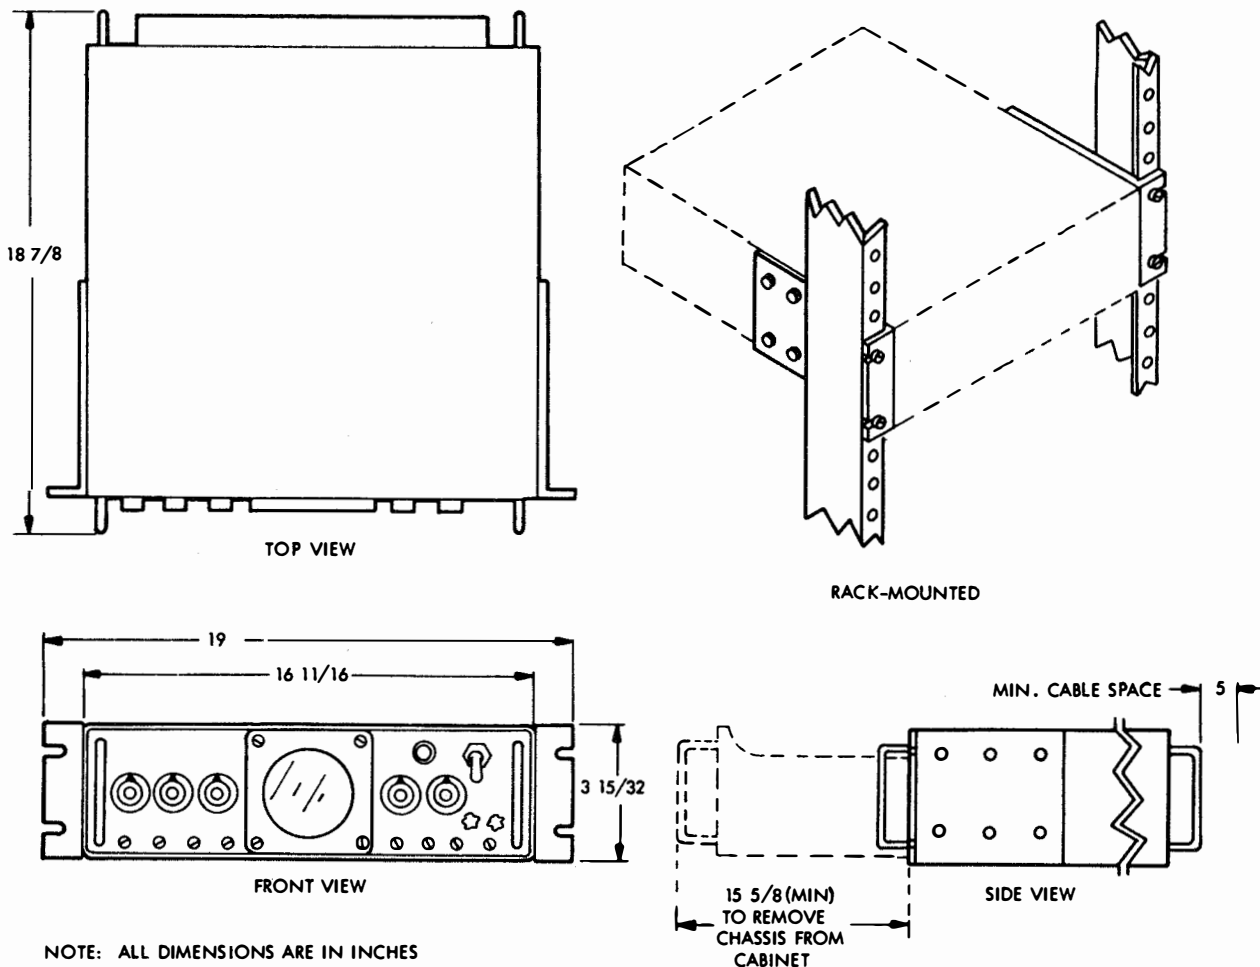

Figure 2-3. Frequency Shift Converter CV-483C/URA-17, Rack-Mounting Installation Drawing
dimensions and clearances required for table-mounting the CV-483C/URA-17. Figure 2-3 shows all mounting dimensions and clearances required for rack-mounting the CV-483C/URA-17.
- Step 2. Remove 10-32 binder-head screws (six on side of each cabinet, figure 2-3).
- Step 3. Fasten rack-mounting brackets on each cabinet, using screws just removed (figure 2-3). Tighten screws securely.
(4) RACK-MOUNTING THE CV-483C/URA-17.
- Step 1. Remove 10-32 binder-head screws (six on each side of cabinet, figure 2-3).
- Step 2. Fasten rack-mounting brackets on cabinet, using screws just removed (figure 2-3). Tighten screws securely.